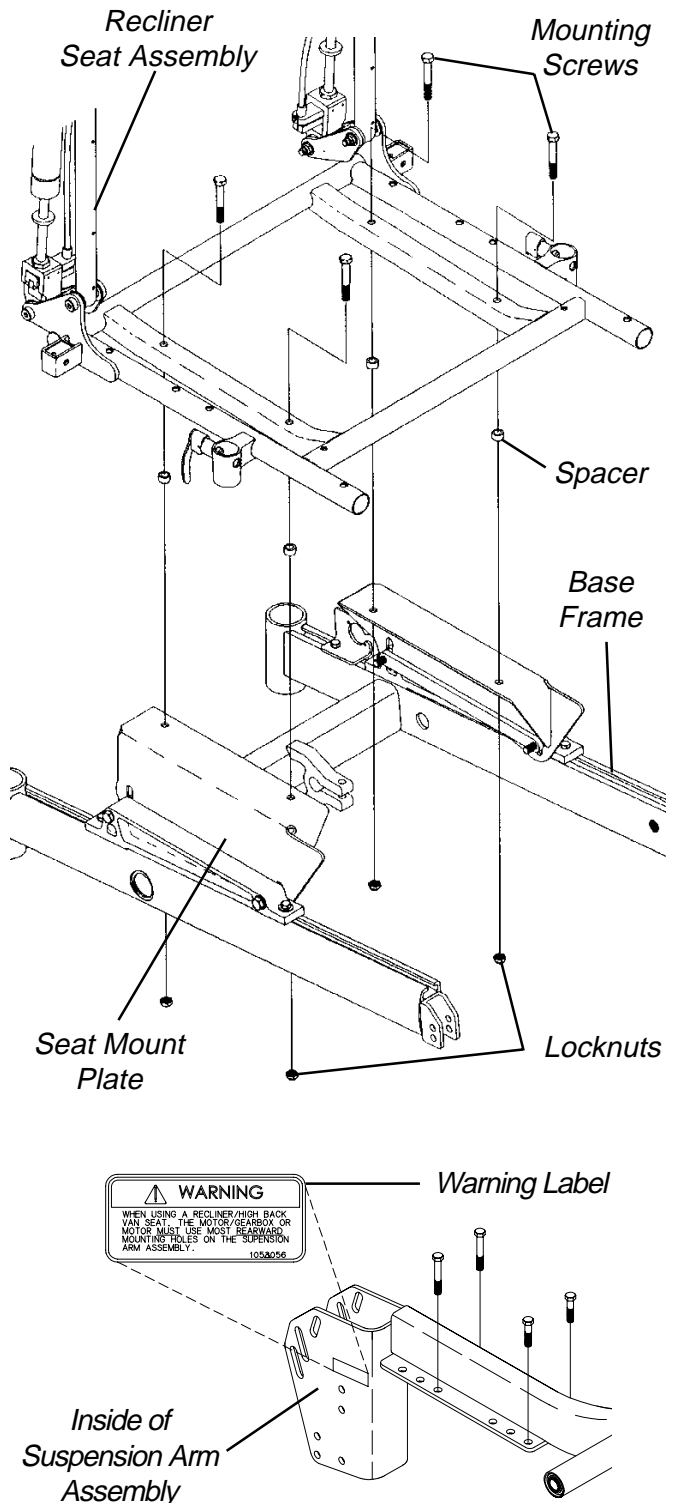

FIGURE 7 - INSTALLING/REPLACING ADJUSTABLE 16 TO 19-INCH DEEP RECLINER SEAT FRAME ONTO ARROW OR X BASE
INSTALLING/REPLACING ADJUSTABLE 16 TO 19-INCH DEEP RECLINER SEAT FRAME ONTO ARROW OR X BASE FRAME (FIGURE 7)
7. Reinstall recliner seat pan with existing six (6) mounting screws.
8. Install the two (2) warnings labels onto the two (2) suspension arm assemblies. Refer to FIGURE 7 for correct label placement.